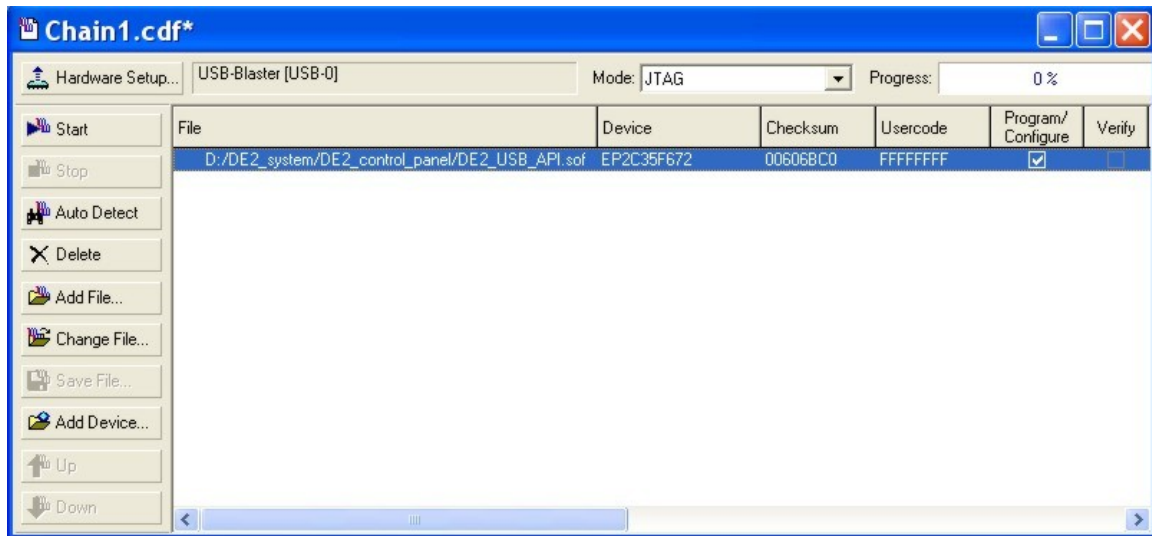

Figure 3.1. Quartus II Programmer window.
4. Select **Tools > Programmer** to reach the window in Figure 3.1. Click on **Add File** and in the pop-up window that appears select the *DE2_USB_API.sof* file. Next, click on the **Program/Configure** box which results in the image displayed in the figure. Now, click **Start** to download the configuration file into the FPGA.